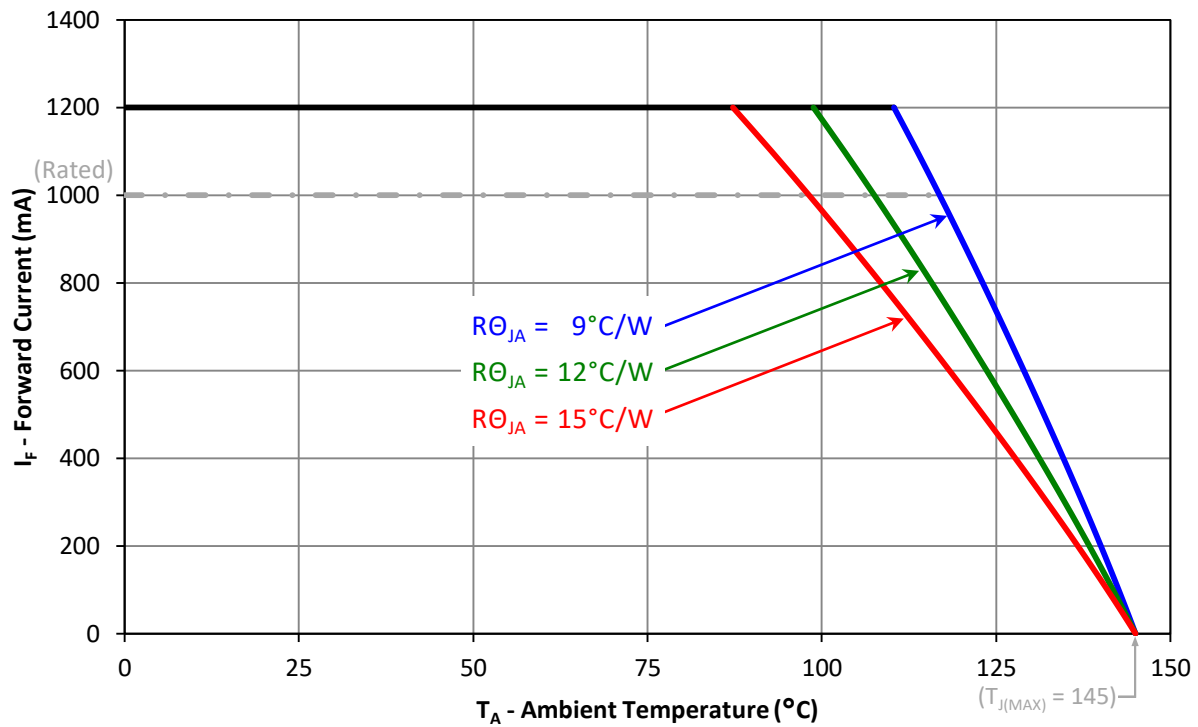

Figure 11: Maximum forward current vs. ambient temperature based on  $T_{J(MAX)} = 145^\circ\text{C}$ .
- Maximum DC forward current is determined by the overall thermal resistance and ambient temperature. Follow the curves in Figure 11 for current derating.
Notes for Figure 11: